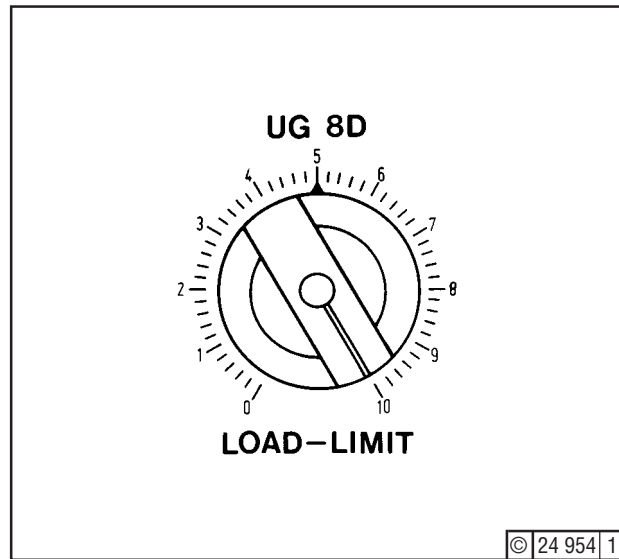

Fig. 12
9. **Governor UG8D** (Fig. 12)